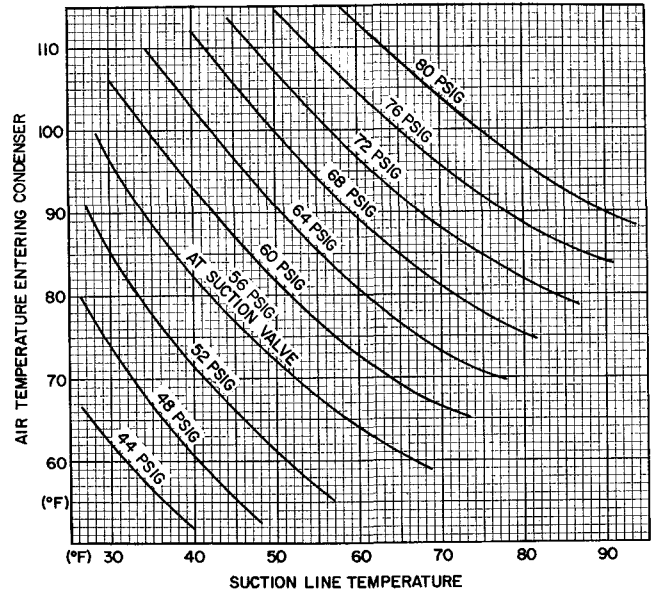

Fig. 6 — 38EB Charging Chart (AccuRater™ System)
CHARGING CHART METHOD — Use Charging Chart, Fig. 6, and the following procedure.
5. Refer to Charging Chart (Fig. 6). Find air temperature entering condenser and project horizontally to curve showing suction pressures (psig at suction valve).